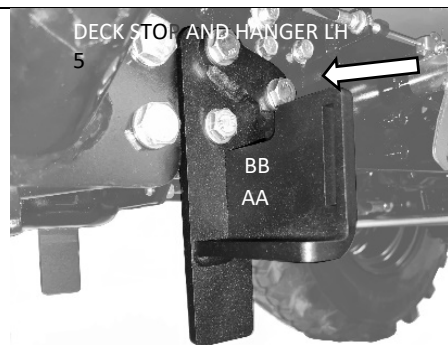

Figure 10A
8. Install the Tractor Deck Stop and Hanger LH (item 4) using the bolts BB and washers AA, figure 10A.